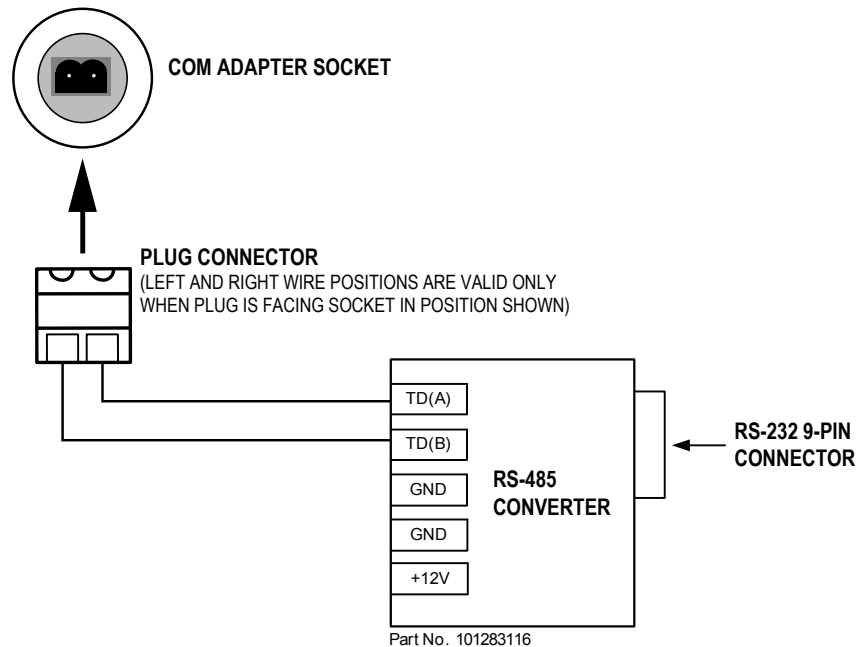

Figure A.9—Wiring of plug connector to Cameron 9-pin RS-232 to RS-485 converter cable
The adapter is shipped pre-assembled in the Scanner 2000 when it is ordered with the unit. The installed adapter is comprised of an RS-485 adapter socket, a blanking plug, and a union nut. A plug connector that mates with the RS-485 adapter socket when the adapter is in use is shipped with the device (uninstalled). This plug connector should be wired to an RS-485 converter cable, and stored with the cable when the COM adapter is not in use. Wiring instructions for connecting the plug connector to an RS-485 converter cable are provided in Figure A.9, page A-5.
2. Connect the plug connector to an RS-485 converter cable, if it is not already attached (Figure A.9).